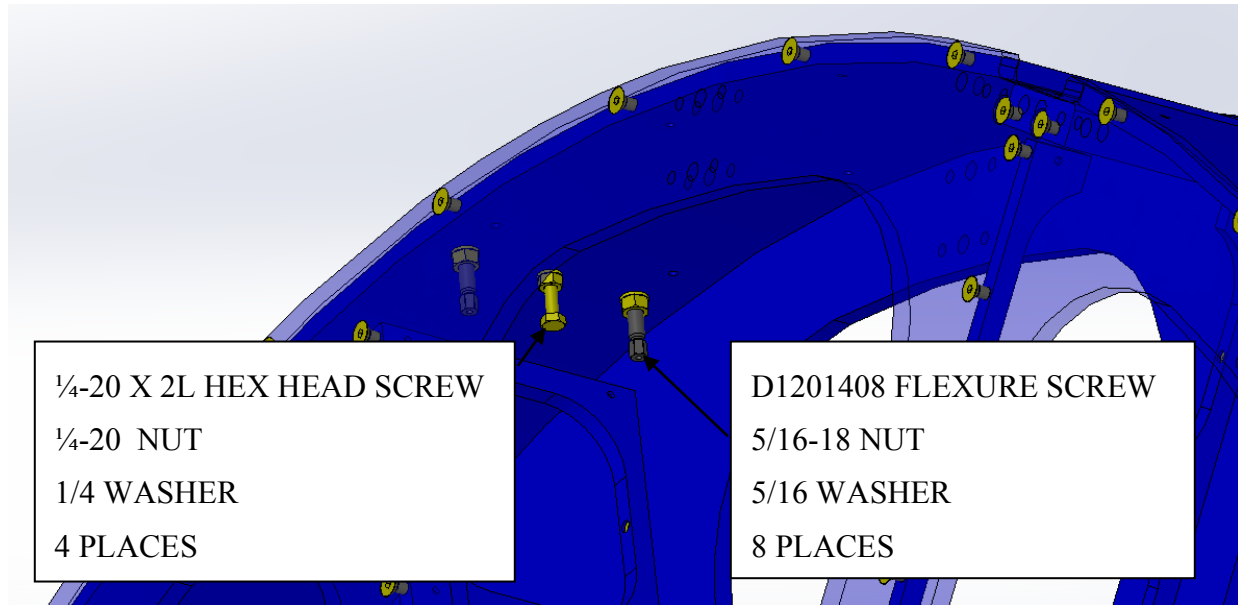

Figure 1 Flexure retention and adjustment hardware.
46. Install eight D1201408 Flexure Adjustment Screws with nuts and washers according to D1200174. Screw tips should be flush with the outside surface of the Ring Pieces. Nuts should be lightly tightened to prevent loosening during shipping. See **Figure 1**.
47. Install four $\frac{1}{4}$ -20 x 2" Hex Head Screws with $\frac{1}{4}$ -20 nuts and washers according to D1200174 (items 20, 21, 22). Screw tips should be flush with the outside surface of the Ring Pieces. Nuts should be lightly tightened to prevent loosening during shipping. See **Figure 1**.